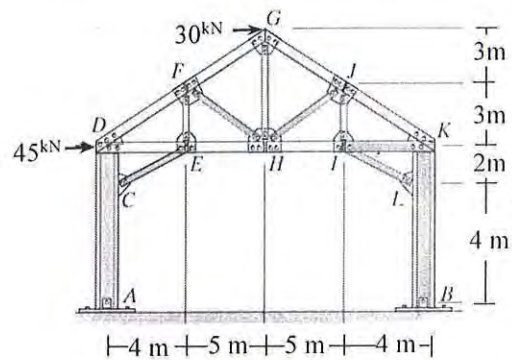

Fig.6
6. Analyze the mill bent shown in **Fig.6** by Portal Method to determine the reactions at support A and F. Also, determine the force in members **DF** and **IL**. [05]